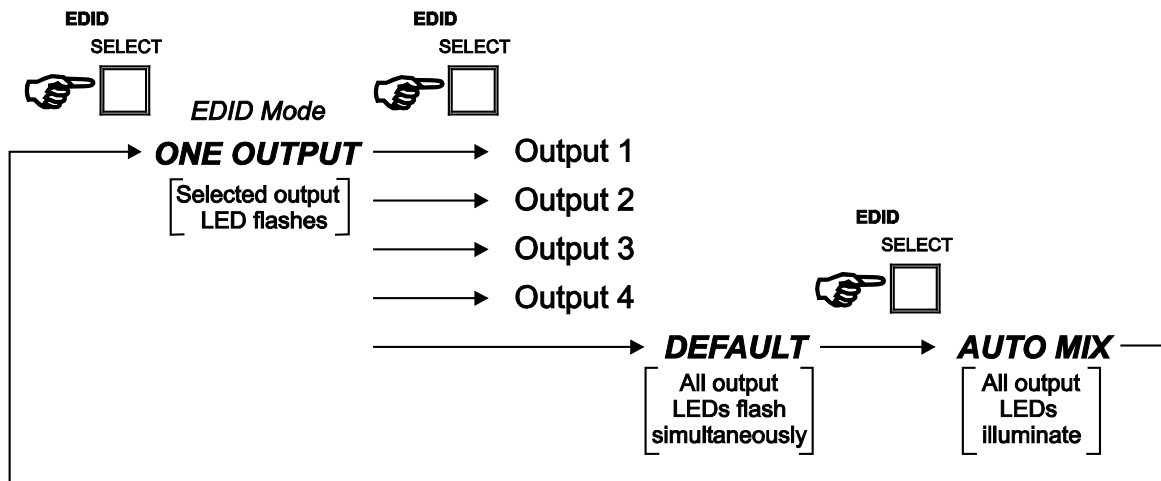

Figure 3: EDID Modes
To cycle between the different modes, press the EDID SELECT button as shown in Figure 3.
3. Press the EDID SELECT button to enter the ONE OUTPUT mode as shown in Figure 3.
3. Enter the AUTO-MIX mode as shown in Figure 3. The OUTPUT STATUS LEDs illuminate.